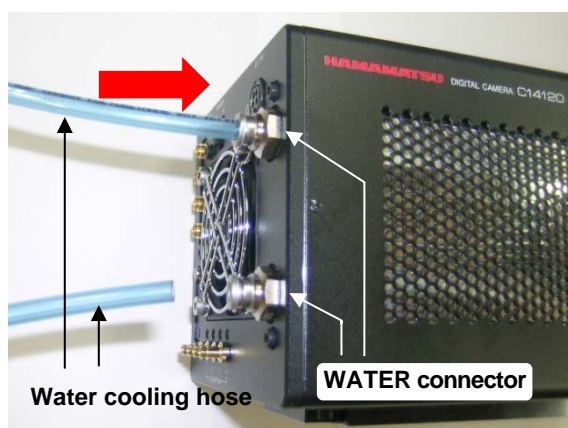

Figure 11-2
- Connect water cooling hose into the WATER connector on the camera. (as shown in Figure 11-2) Confirm the hose stops at it.